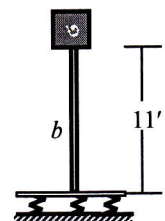

Fig. 2
6. Fig. 2 shows Column b (mentioned in Question 5) supported on 33 massless Base Isolation Springs with Shear Modulus $G = 100$ psi, Bearing Area $A = 100$ in², Height $h = 5"$.